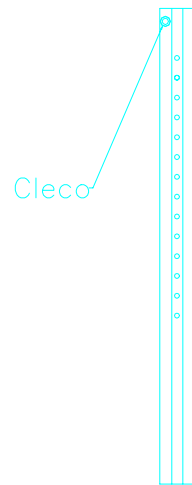

Figure 22.3.2
4) Drill a #30 hole at the front outside flange of SA-27. Cleco. Figure 22.3.2.